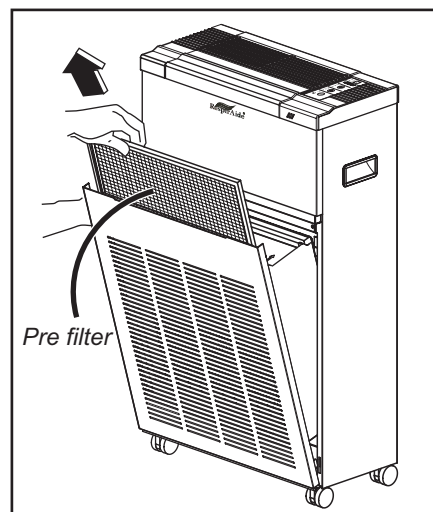

Fig. 2.1-1 Pull out the pre filter.
- Hold the front panel (Air intake) upper portion (Left and right side) and pull the front panel toward you (Fig. 2.1-1).